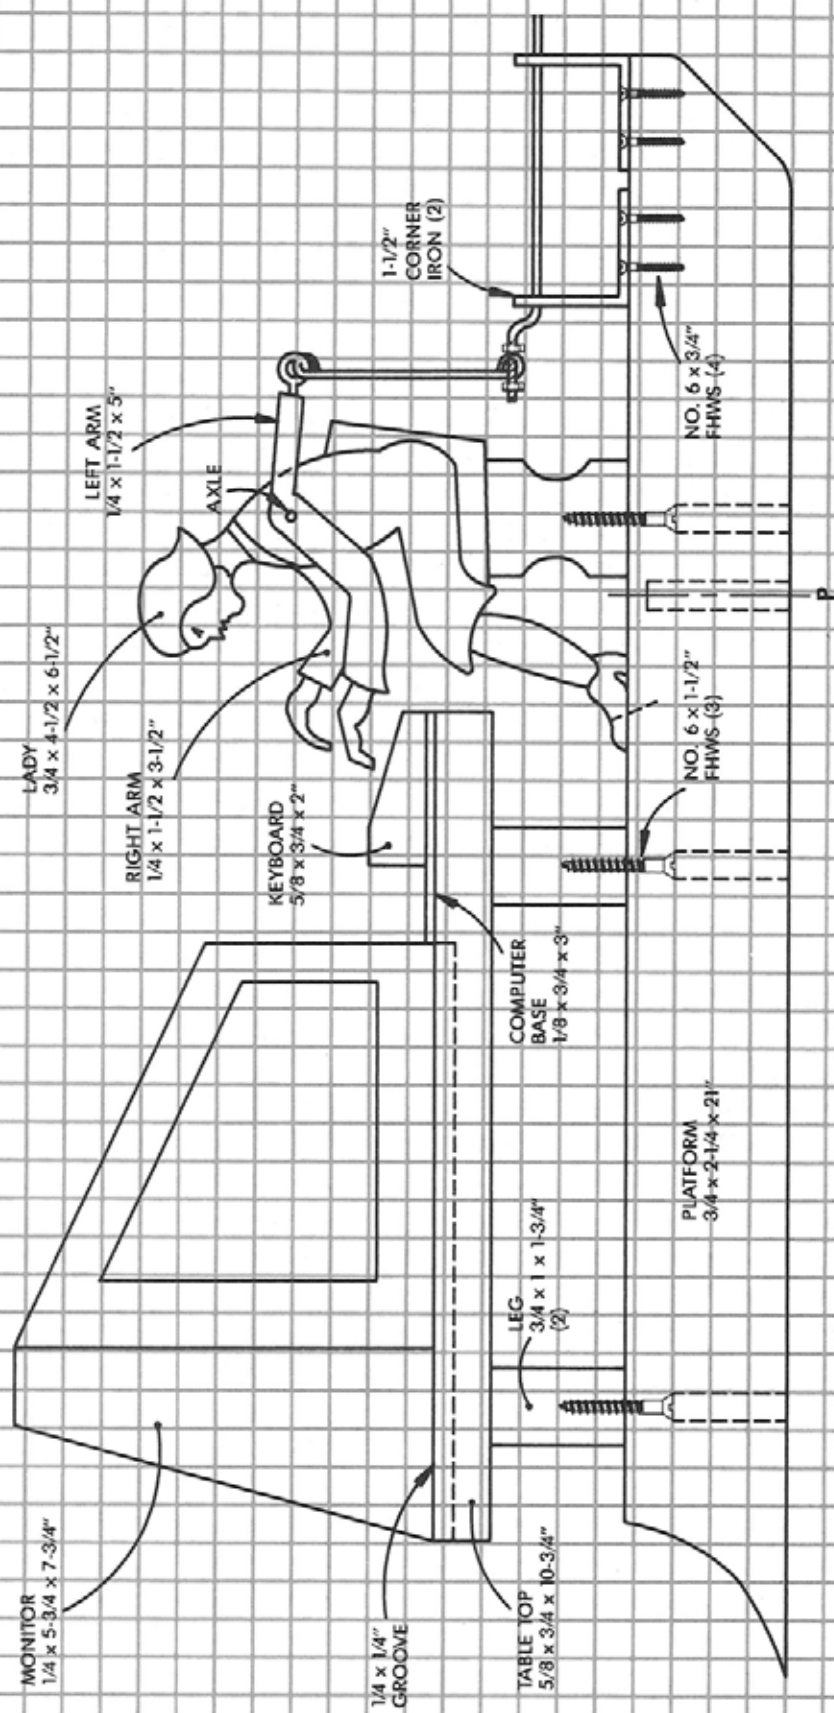

Figure 4-53. Plan for Woman at the Computer whirlingig.
1. Cut out the platform and mark where the objects will be located (Fig. 4-53). Drill the $3/8$ in. pilot socket hole at 7 in. from the front of the platform. Drill holes to hold the computer operator at 6 in. and the table legs at $10\ 1/2$ and $17-1/2$ in. from the front of the platform. Attach the corner irons.